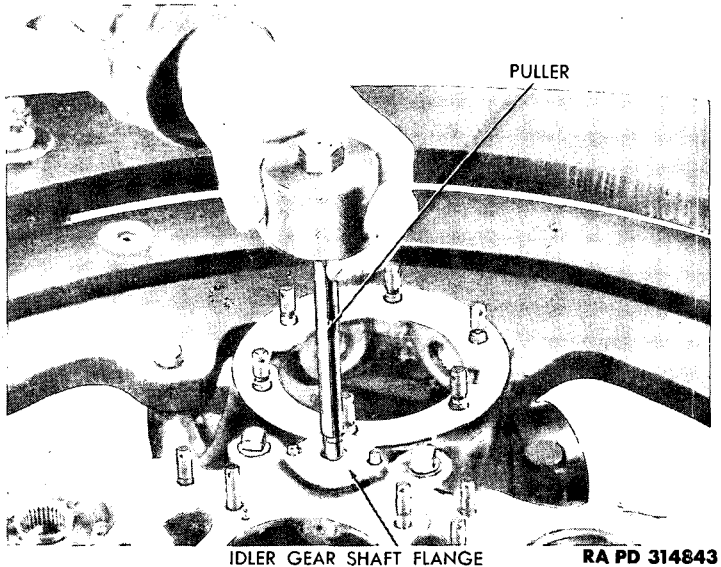

Figure 176 – Pulling Generator Idler Gear Shaft
g. Remove Generator Idler Gear. Cut and remove safety wires from plugs and from nuts on idler gear shaft flange. Remove nuts from studs. Remove plug from center of flange and insert puller. Pull shaft from crankcase by sliding weight on puller (fig. 176). Reach in through starter opening, remove shaft (fig. 177), and pull gear through opening, lining up edges of gear with slots in opening (fig. 178).